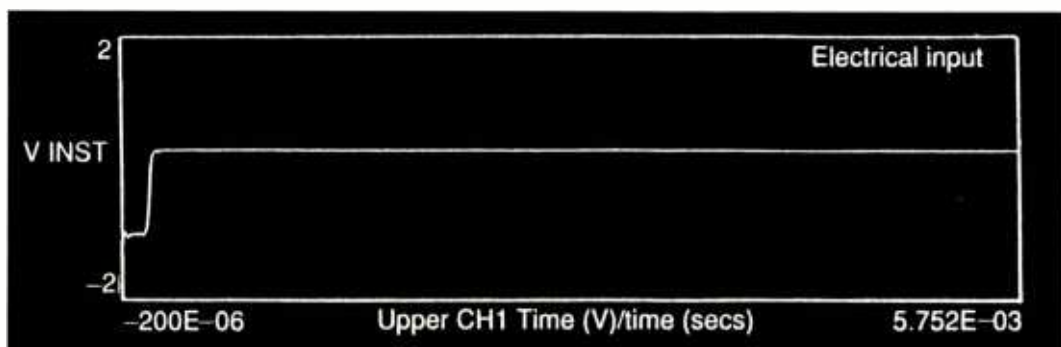
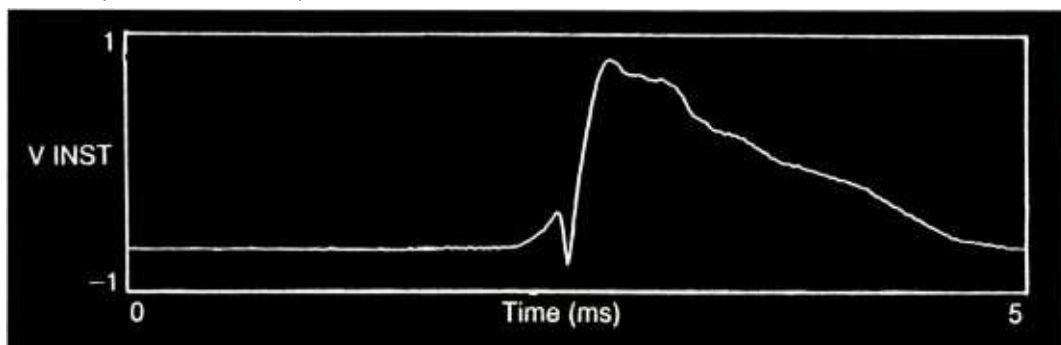

Fig.1a: Step function electrical input
Fig.1b: Response of system using a 'D'Appollo' vertical array
**S**OUND CONSISTS of both pressure and velocity variations, and microphones can use either or both in order to obtain various directional characteristics. Fig.1a shows a true pressure microphone that consists of a diaphragm stretched across an otherwise sealed chamber. In practice a small pinhole is provided to allow changes in atmospheric pressure to take place without causing damage. Some means is provided to sense the diaphragm motion and convert it into an electrical output signal. This can be done in several ways (these will be considered in a later article). The output of such a microphone is independent of direction except at high frequencies as Fig.1b shows.